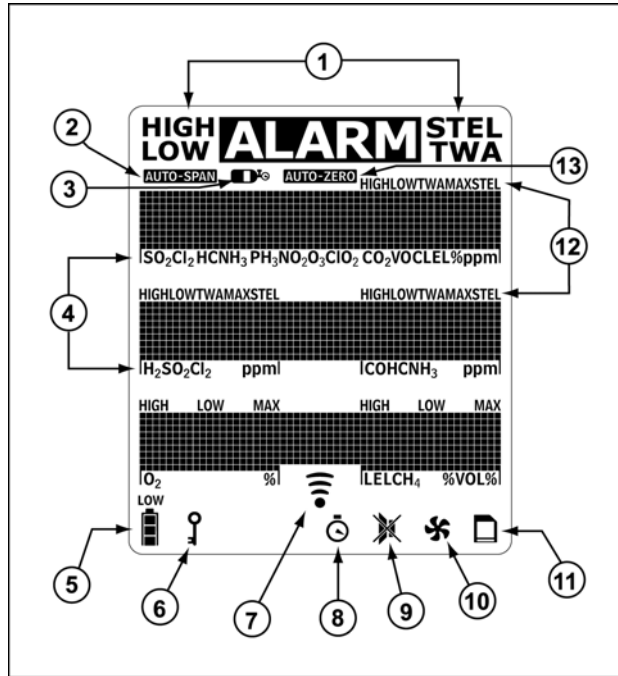

Figure 2. Display Elements
- Figure 2 and Table 4 describes the detector's Liquid Crystal Display (LCD) elements